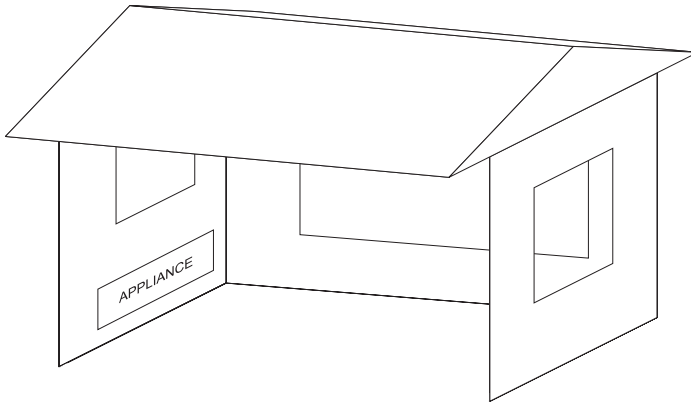

Figure 8
- Within a partial enclosure which includes an overhead cover and three sidewalls, as long as 30% or more of the horizontal periphery (i.e. perimeter) of the enclosures is permanently open; such as an open porch. See Figure 8.